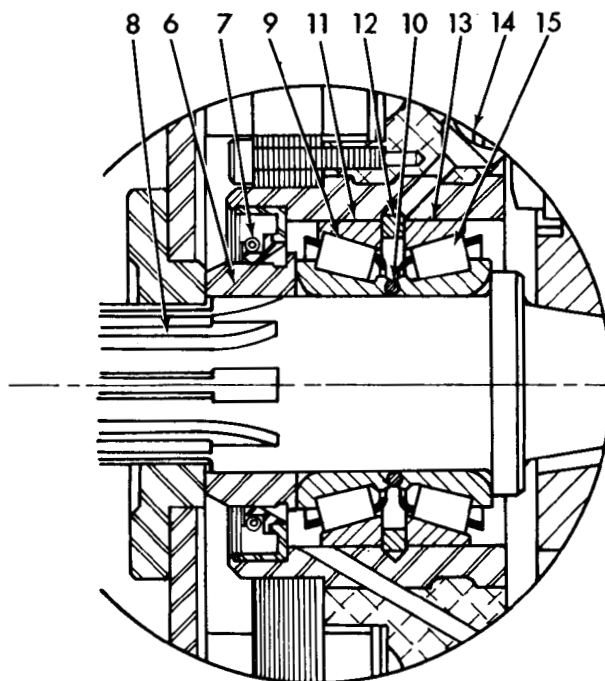

Figure 3-35. Sprocket Shaft Bearing Assembly - Section View
Install flywheel side outer race snap ring (12) in case. Using arbor press and Outer Race Press Plug, Part No. 97194-57 (see Figure 3-105) to press outer race parts into crankcase bushing one at a time as shown in Figure 3-35. Press the races into the case, one from each side, with widest ends outward to match taper of bearings. Be sure each race bottoms on the snap ring.
crankcase half and feeling for a slight amount of play of crankcase half on bearing. Note: If there is no noticeable shake, or if flywheel assembly does not rotate freely in bearing, disassemble bearing and add a .003 shim, Part No. 23741-55, on one side of inner race spacer (10, Figure 3-35). Again install bearing with tool and recheck for slight play in bearing.